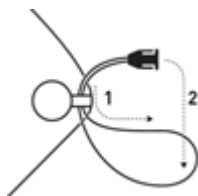

Figure 13 - Attaching the Neck Lanyard
Attach each of the two loops to the attachment holes (1) of the device (2) and connect the neck lanyard to the clips on the loops. Finally adjust the length of the neck lanyard to suit your needs (Figure 13).